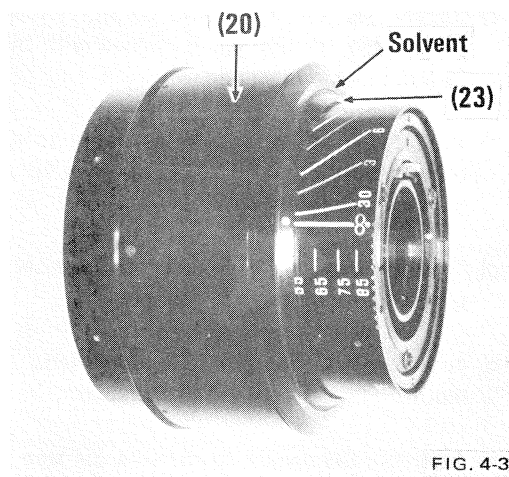

FIG. 4-3
b) Flow solvent into threads between control ring (20) and cam slot ring (23). Fig. 4-3.